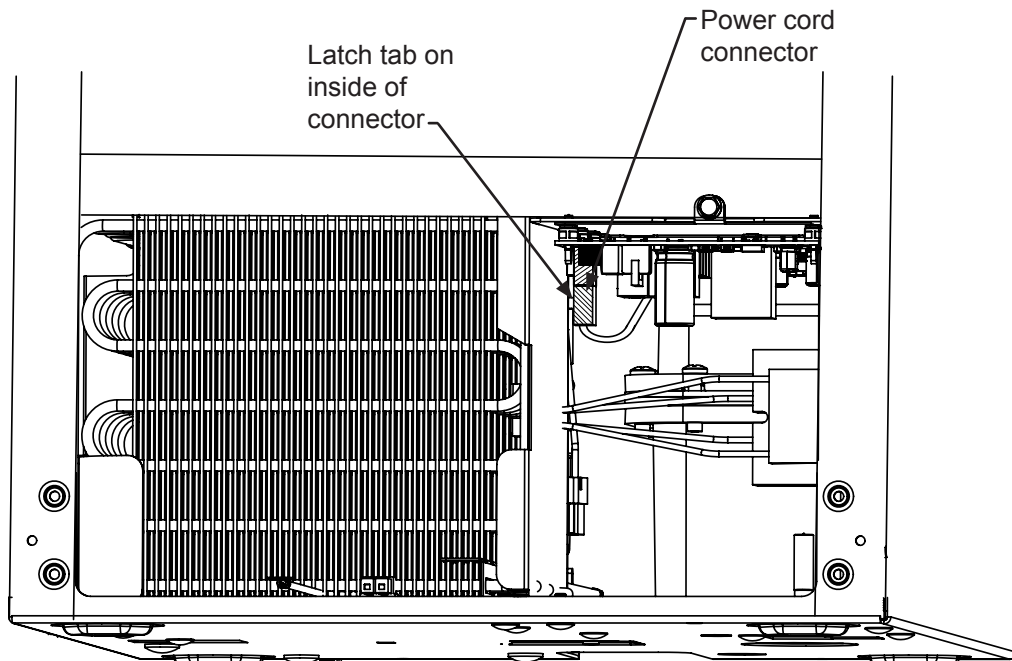

Figure 4
4. Remove the power cord connector from the main electronic board. Depress the latch on the inside of the connector and pull down to disengage the connector. See Figure 4. Place the end of the power cord with the connector toward the back of the ice machine.